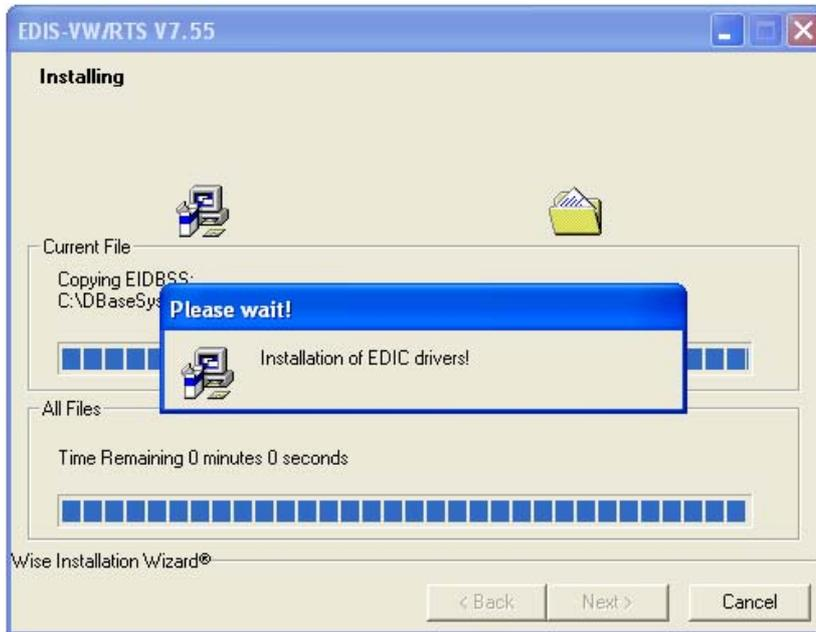

Fig. 3-16 Installing the drivers for the diagnostic interface
9. Toward the end of the installation process, the drivers for the diagnostic interface are installed. This may take a while (Fig. 3-16).